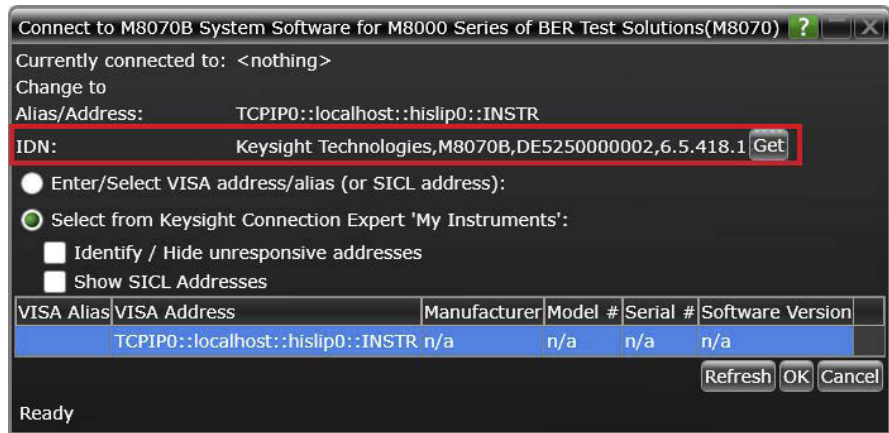

Figure 10 IDN: field displaying successful connection to M8070B
- 3 Click **Get** in the **Connect to M8070B System Software for M8000 Series of BER Test Solutions(M8070)** window (Figure 10). The **IDN:** field displays the instrument name.